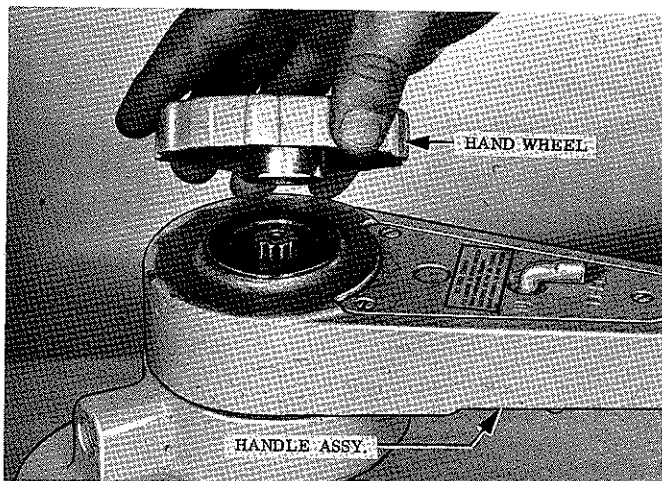

Figure 6-4. Removing Hand Wheel
b. Remove cap screw securing hand wheel to pinion shaft and lift off wheel. See Figure 6-4.